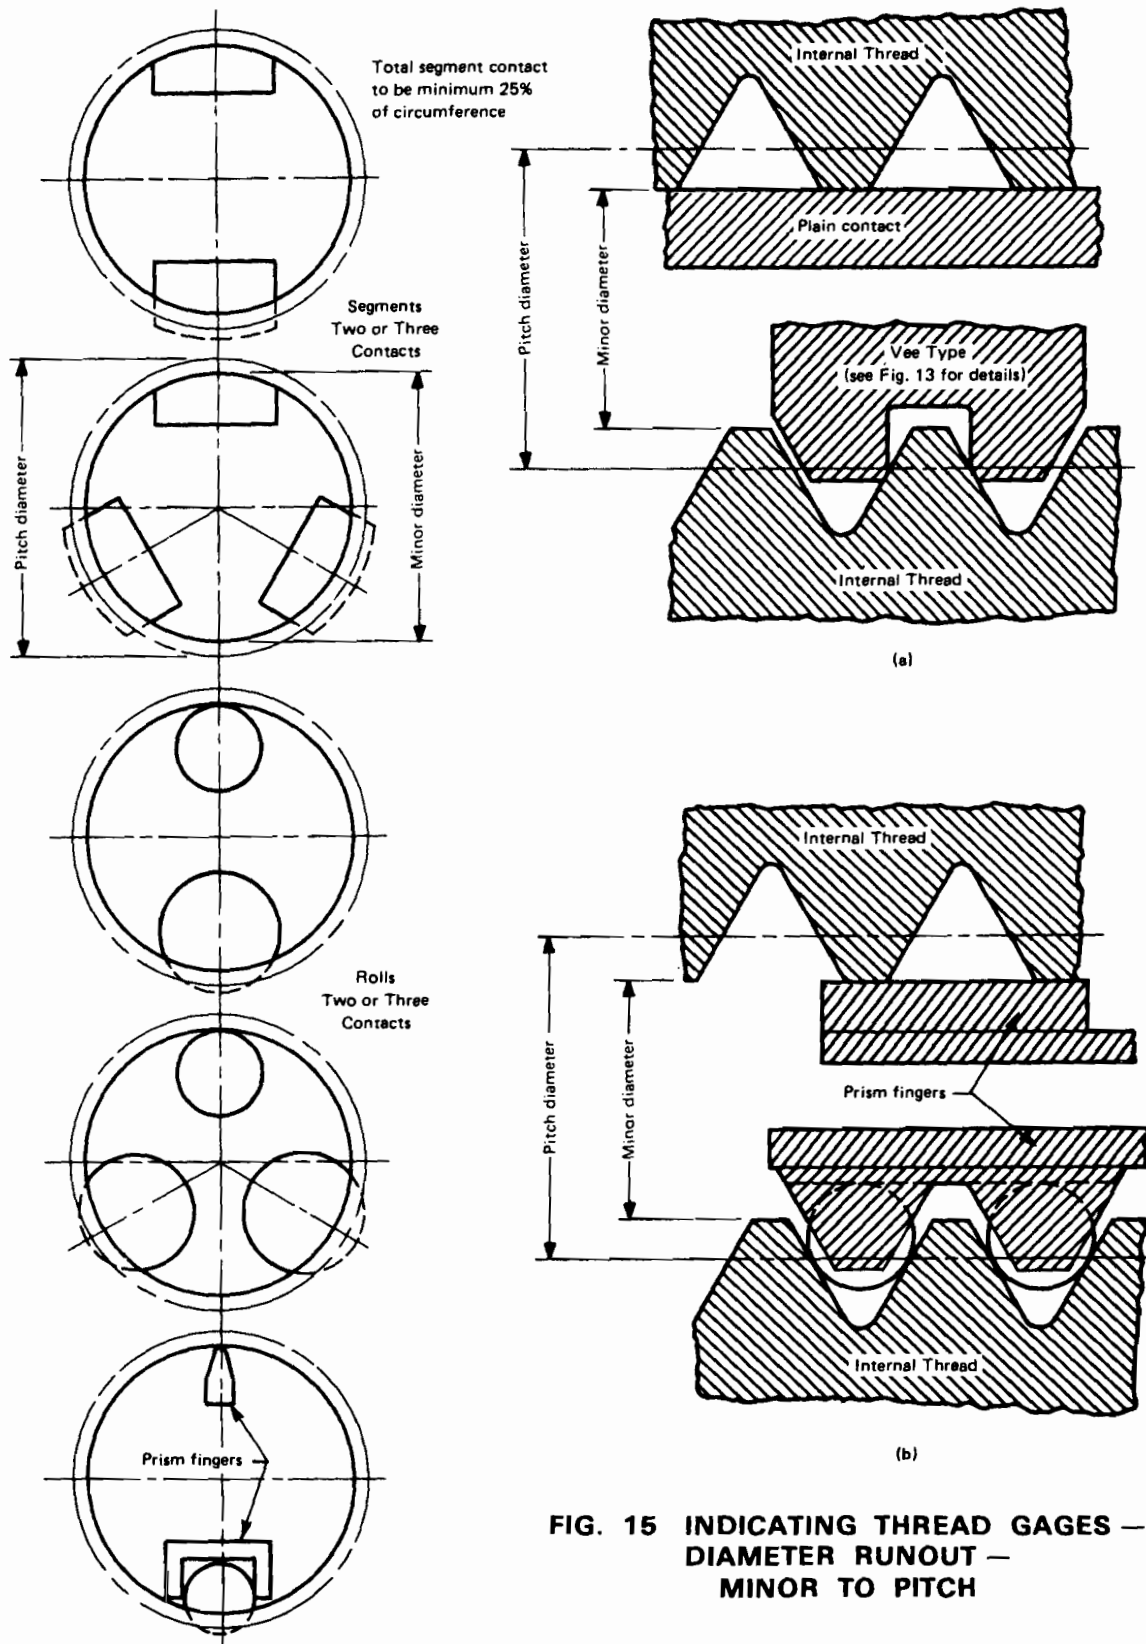

FIG. 15 INDICATING THREAD GAGES —
4.12.2 Basic Design. Indicating gages have three contacts, one plain and two threaded, at 120 deg.; or two contacts, one plain and one threaded, at 180 deg. See Fig. 15, sketch (a). The range of segments is 5 mm and larger; the range of rolls is 75 mm and larger.
plain prism shaped finger 180 deg. apart from the ball contact. See Fig. 15, sketch (b): the range is 15 mm and larger.
4.12.3 Thread Form. The specifications for thread form on vee segments or rolls are summarized in Fig. 15. Plain contacts have line bearing on minor diameter of product. Balls are "best size" thread ball contacting thread at pitch line.